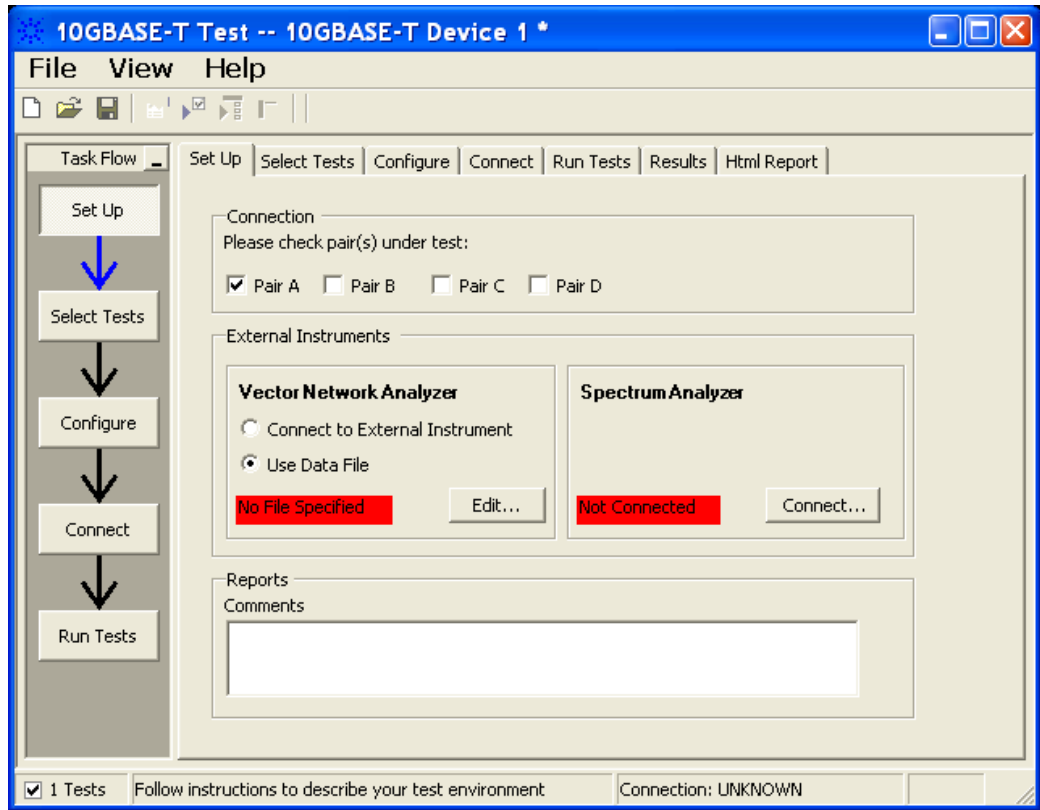

Figure 31 Use data file option for vector network analyzer
- 11 To do so, click on the Use Data File and the Edit button will appear, as shown in Figure 31. Click on this button to select the data file for each pair.